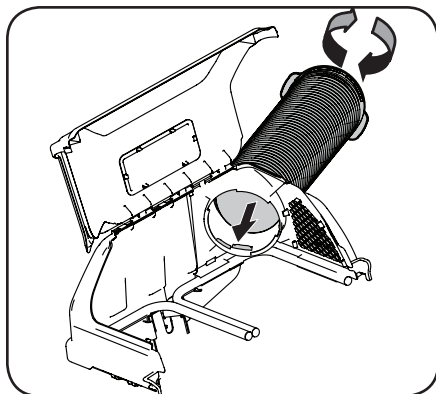

Figure 4-15
1. Thread the upper end of the chute tube securely into the upper chute support. There are two tabs on the lower inside part of the upper chute support to allow for secure threading. See Figure 4-15.